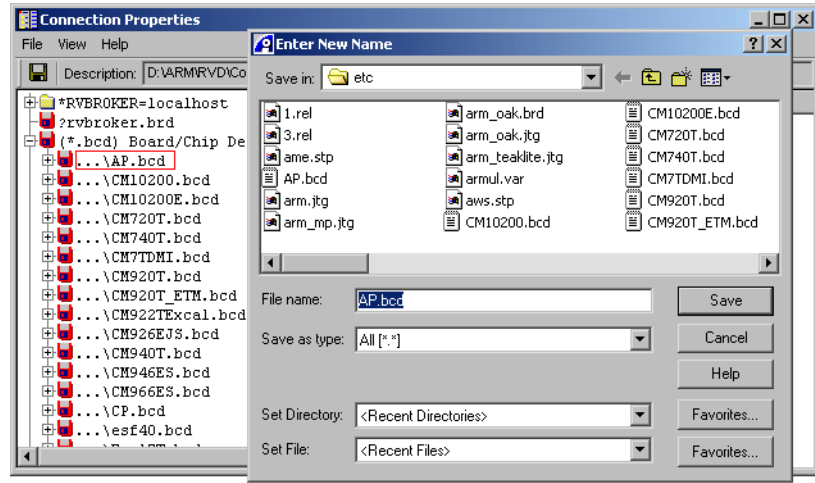

Figure 3-14 Saving an existing .bcd file with a new name
4. Select **Save As...** from the context menu, to display the dialog box shown in Figure 3-14 on page 3-22.